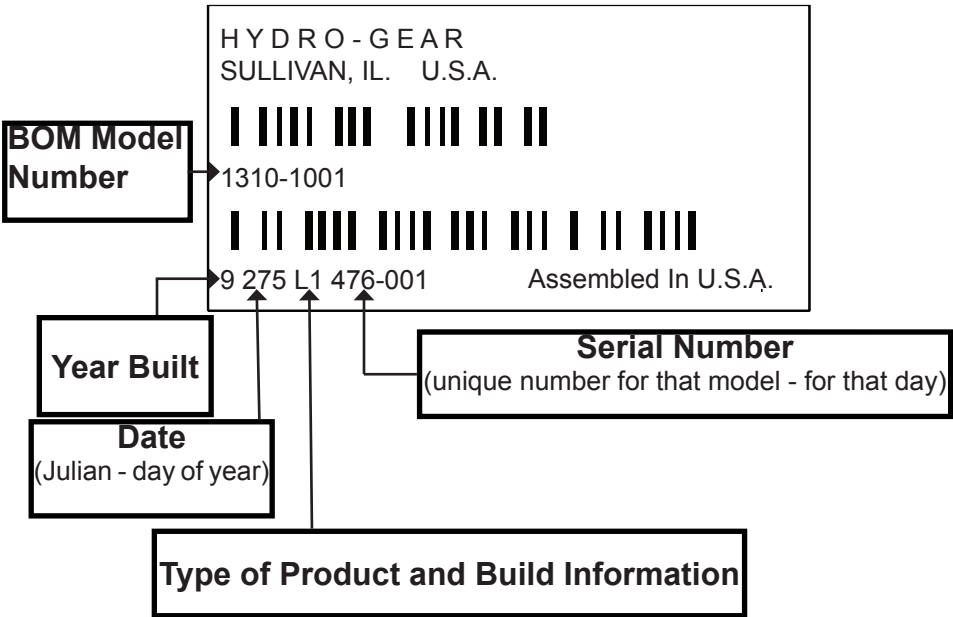

Figure 2: Product Configuration
2. Check oil level in accordance with Figure 2 Page 9.